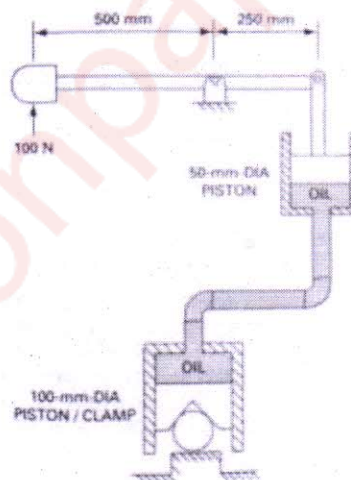

FIGURE 1
2. (a) Figure 1 shows a hydraulic system used for clamping a cylindrical work-piece during machining operation. If the machine operator applies a 100N force to the lever as shown, what clamping force is applied to the work-piece? 8